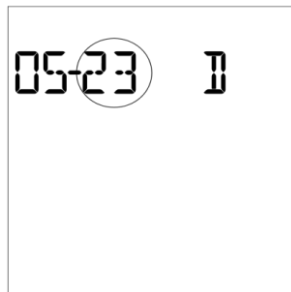

Fig 5.4
- 3) Press the right or left button to select the target date, short press of the power button to save the date setting and enter the hour setting (Ref Fig 5.4).